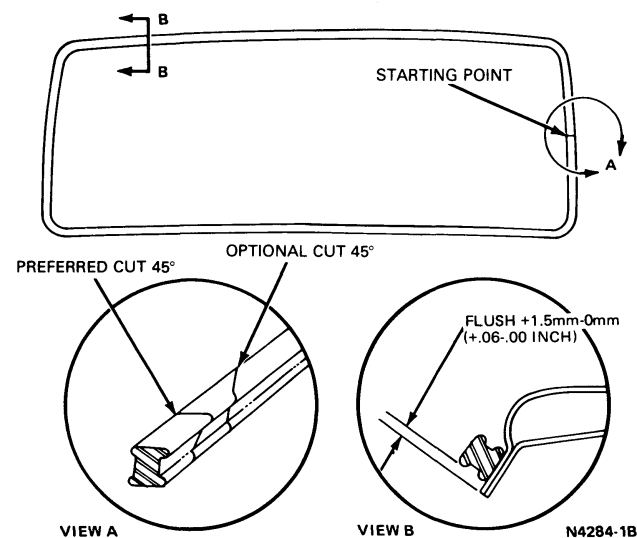

FIG. 10 Procedure No. 2—Single Row Butyl Tape Replacement
1. Starting at the midpoint on "A" pillar, apply the butyl tape around the opening as shown in Fig. 10, View B.
angle and carefully splice the two loose ends. The splice cut line must taper down and toward the outboard side of the vehicle (Fig. 10, View A).